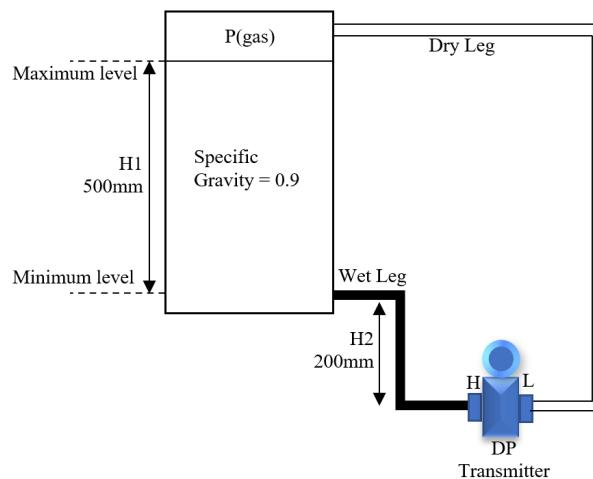

Figure A3(b) / Rajah A3(b)
- (b) In a closed tank DP-cell level measurement, LP leg is connected to the top of tank. The dry leg method is used in normal close tank, as shown in Figure A3(b). The formula at zero % level,  $LRV = \text{pressure acting on HP leg} - \text{Pressure acting on LP leg}$ . At 100 % level,  $URV = \text{pressure acting on HP leg} - \text{Pressure acting on LP leg}$ . Compare the LRV and URV count values in mmwc units.